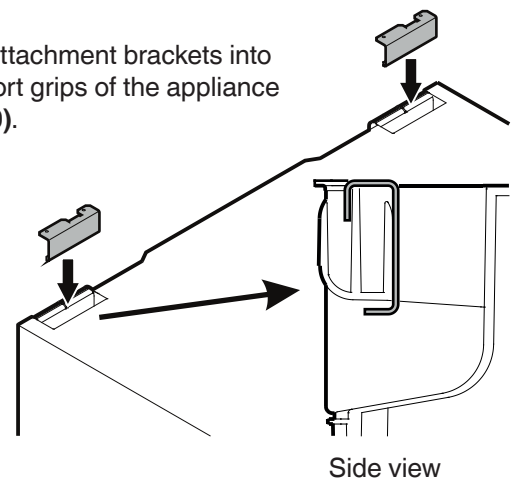

Figure 10
2. Clip both attachment brackets into the transport grips of the appliance (Figure 10).